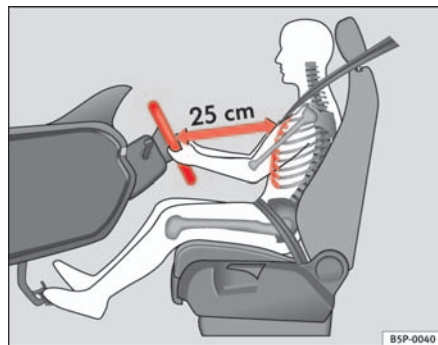

Fig. 130 Proper sitting position for driver
- Adjust the steering wheel in this way until the correct position is set ⇒ fig. 130.
- Adjust the driver seat or steering wheel so that there is a distance of at least 25 cm between the steering wheel and your chest ⇒ page 159, fig. 130. If you fail to observe the minimum distance, the airbag will not protect you. Risk of fatal injury.